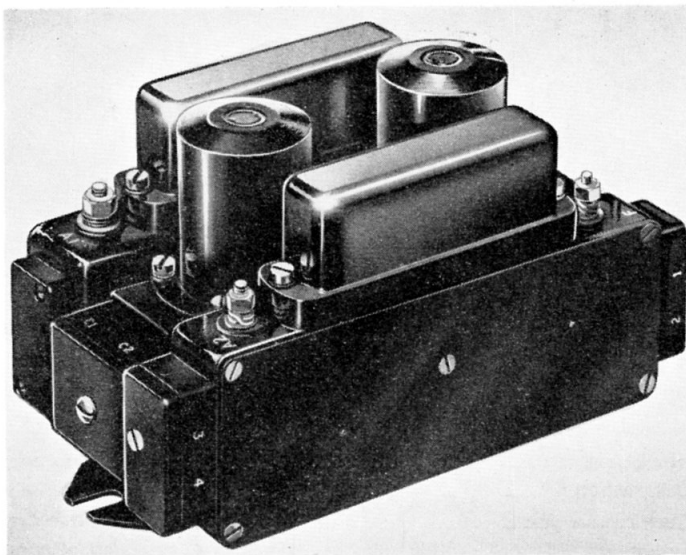
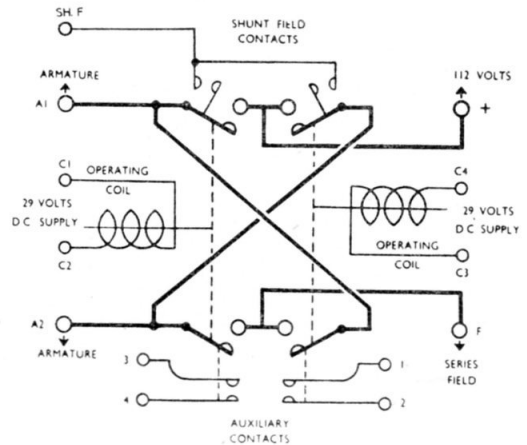

Fig. 1. Magnetic switch Type 6A, No. 5
Fig. 2. Diagram of internal connections
2. The Type 6A No. 5 switch (fig. 1) is identical to that described in A.P.4343, Vol. 1, Sect. 11, Chap. 12. Its auxiliary switches (terminals 1 and 2, 3 and 4) are normally open, as indicated in fig. 2.